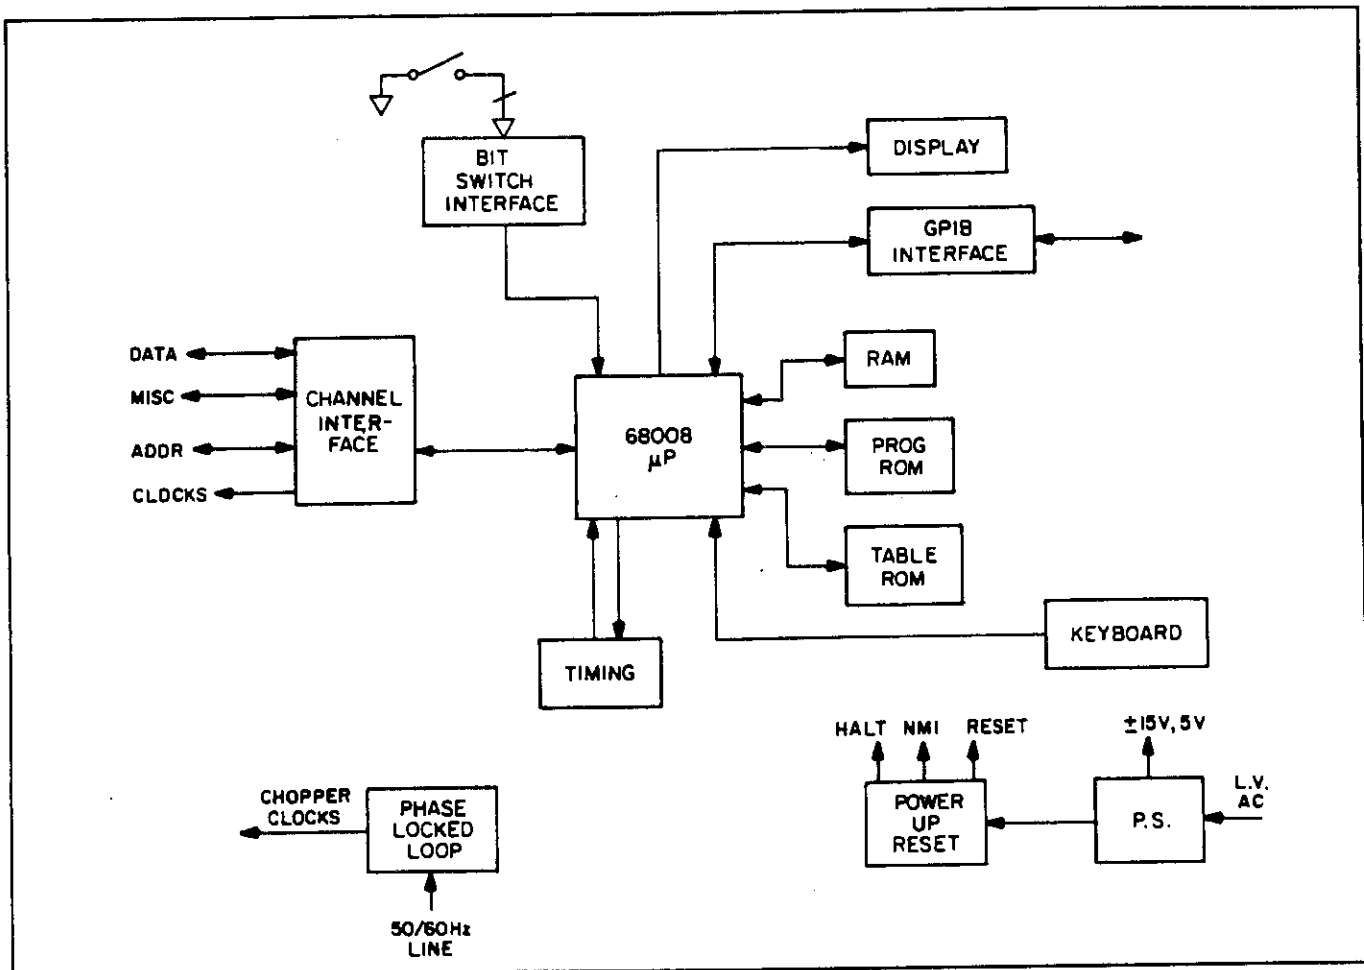

Figure 5-3. Control Board Block Diagram
1. General. Refer to Figure 5-3. The operation of the instrument is under control of a 16-bit microprocessor.